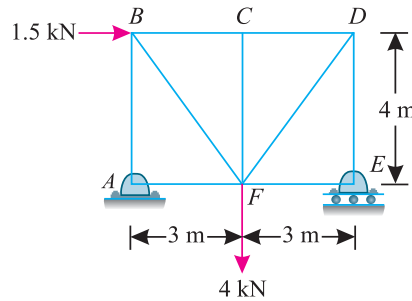

Fig. 12.36.
1. A truss shown in Fig. 12.36 is subjected to two points loads at B and F.